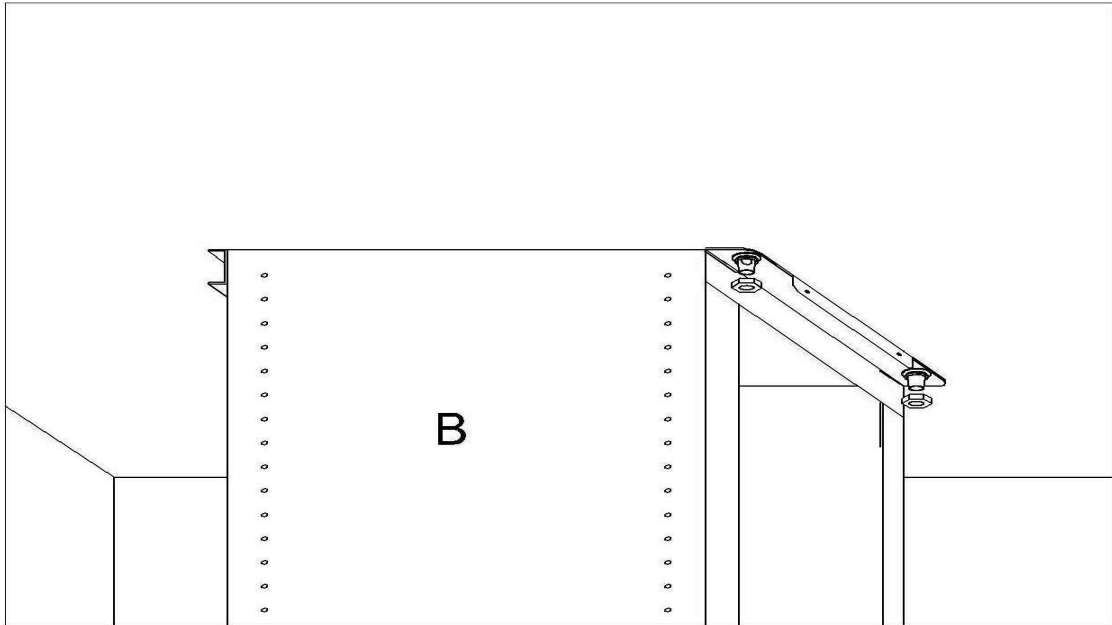

Fig.3
3. Take the upper part of the structure **B** and insert the 3 slots onto the 3 screws that are not completely tightened (Fig3).